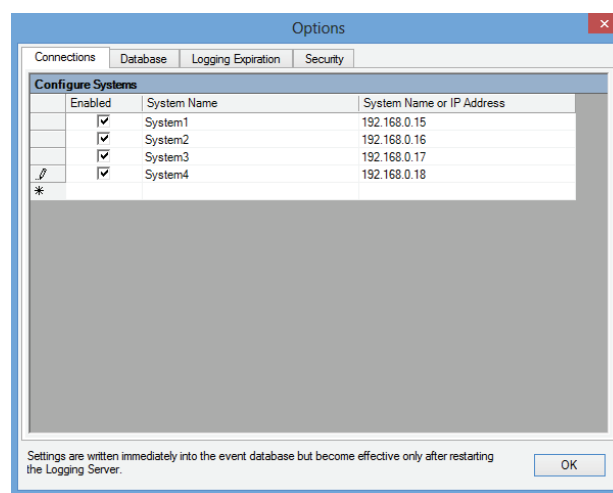

figure 58.8: Add a system (3)
- 3 Click the *System Name or IP Address* field and enter the IP address or the name of the network controller of the system to which the *Logging Server* must connect. For example, *192.168.0.18* (see figure 58.8).